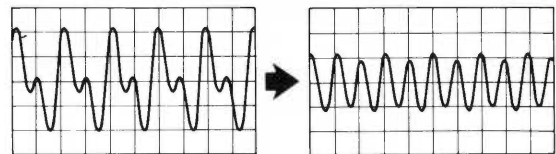

Fig. 4-6-7
- 4) Adjust the half-fixed resistor R715 ( $\sim$  R745) in a way that waveform of TP-13 ( $\sim$  TP-43) terminal turns to a sine wave with 200Hz as shown in Fig. 4-6-7.
- 5) Check TP-13 ( $\sim$  TP-53) waveform outputs a sine wave of 200 Hz as shown in Fig. 4-6-7.